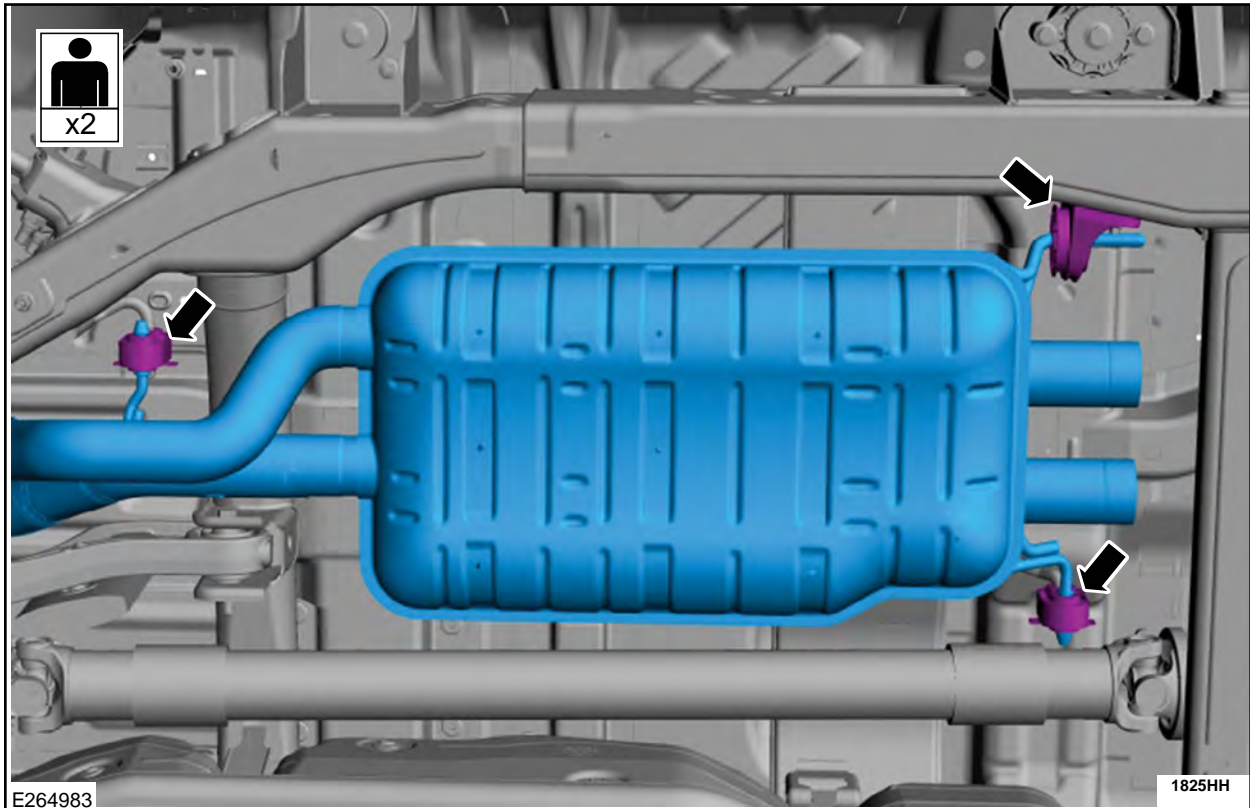

FIGURE 12
28. Detach the isolators and remove the muffler. See Figure 12.